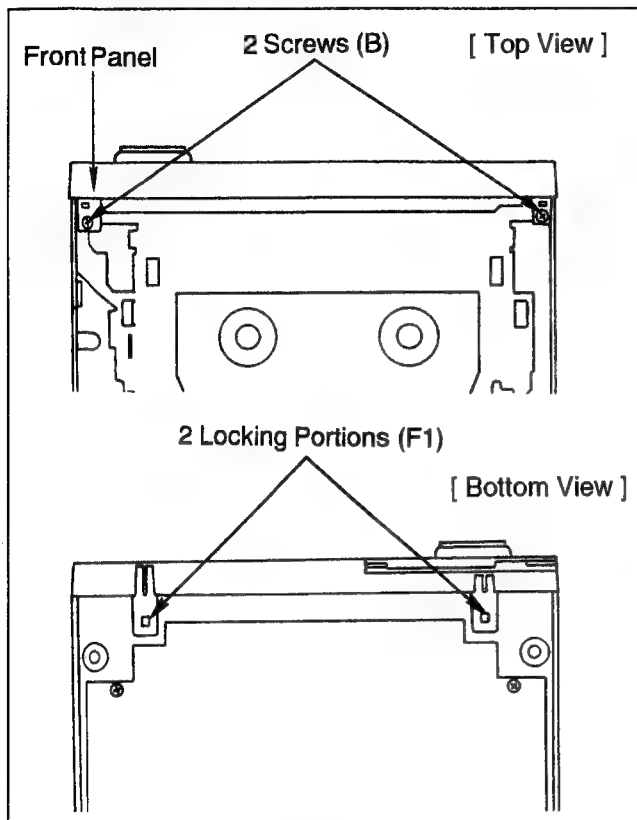

Figure D3
2. Unscrew the 2 screws (B) as shown in the Figure.
3. Unlock 2 locking portions (F1), and carefully pull out the Front Panel from the deck (Figure D3.).